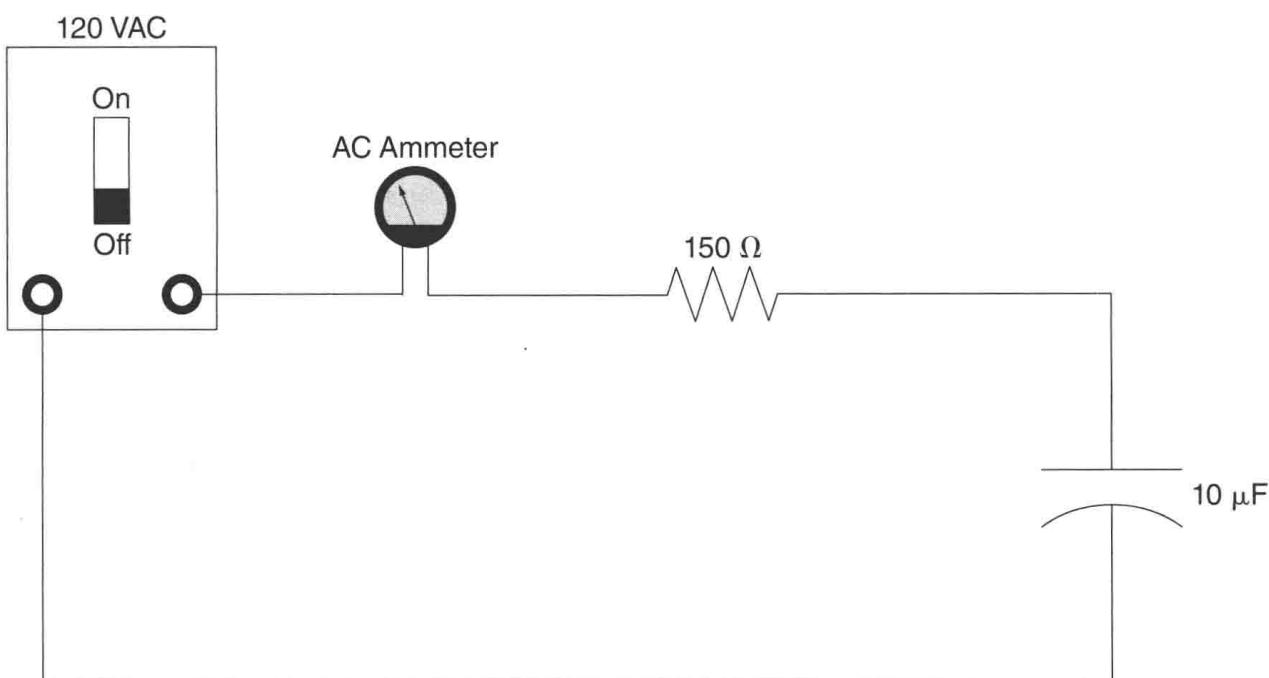

Figure 14-5 Replacing the circuit components.
18. Connect the circuit shown in Figure 14-5.